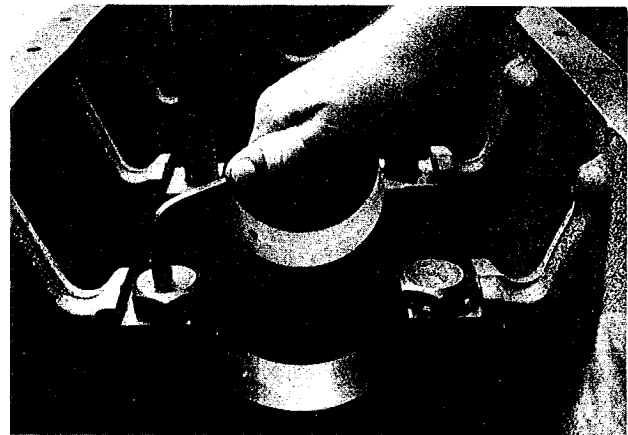

FIG. 2 TORQUE BOLTS
6. Install hold-down bolt in the other bolt hole (also use washer if provided in kit) and torque to approximately 20 ft. lbs. See Fig. 2.